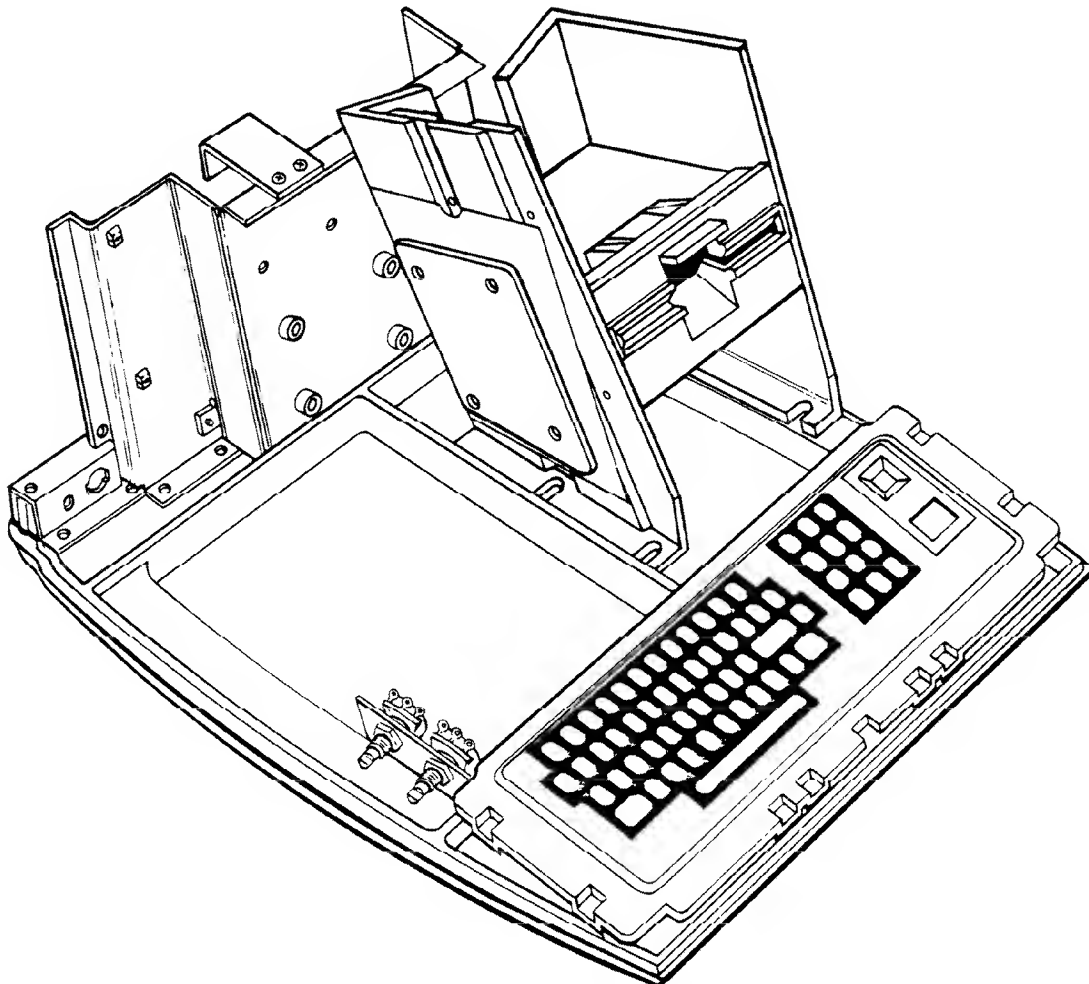

FIGURE 5. DISK DRIVE  $\emptyset$  AND DISK POWER SUPPLY IN POSITION
16. Position the Disk Drive in the bottom position between the Mounting Brackets and fasten the Drive using four #6 x 1/2" screws and four #6 flat washers. Be careful not to tighten the screws too tight. Refer to Figure 5.
17. Position the Disk Power Supply (with power connectors SK-2, 3, and 4 positioned upward) on the left Disk Mounting Bracket. Fasten using four #6 x 1/2" screws and four #6 washers. Refer to Figure 5.